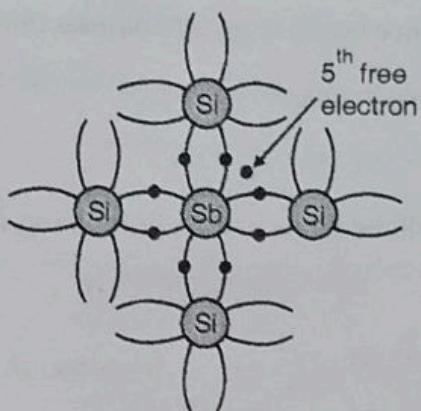
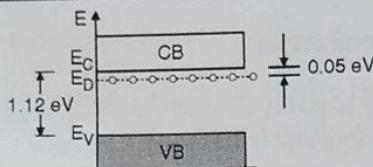

Fig. 1.2.1 : n-type semiconductor
Fig. 1.2.2 : Donor level in n-type semiconductor
- The addition of an impurity adds an allow electrons in the conduction band as shown in Fig. 1.2.2.
1.2.1(A) n-Type Semiconductors
- As shown in Fig. 1.2.1 antimony (Sb) added as an impurity has five valence electrons. Each Sb atom forms covalent bonds with the surrounding four Si atoms with the help of four of its five electrons and the fifth valence electron remains loosely bound to the parent impurity atom which becomes available as current carrier.
- The addition of an impurity adds an allowed energy level E_D at a very small distance below the conduction band as shown in Fig. 1.2.2.